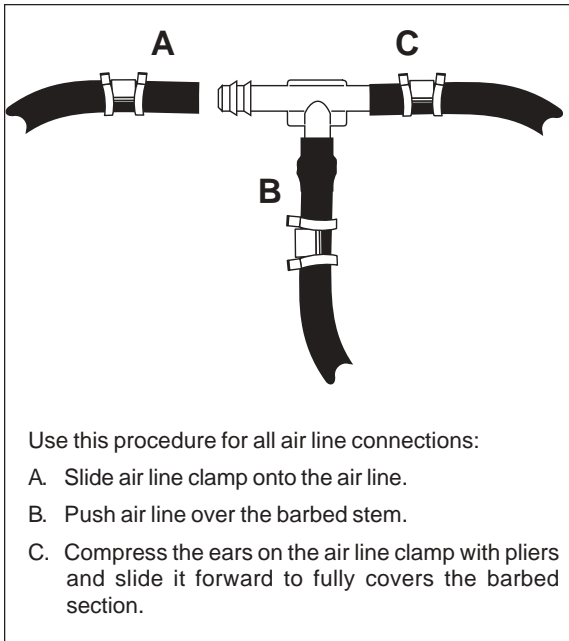

Figure 3
- d. With pliers slide the air line clamp forward until it fully covers the barbed section. Repeat for other leg of tee (Figure 3).